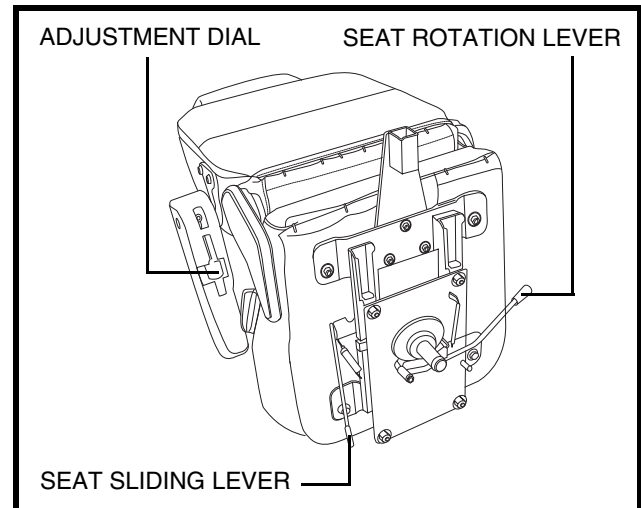

Figure 16. Seat Position Adjustments
1. Push forward on the seat rotation lever to disengage the seat. **See figure 16.**
1. Move the seat sliding lever located at the lower left side of the seat outward. **See figure 16.**